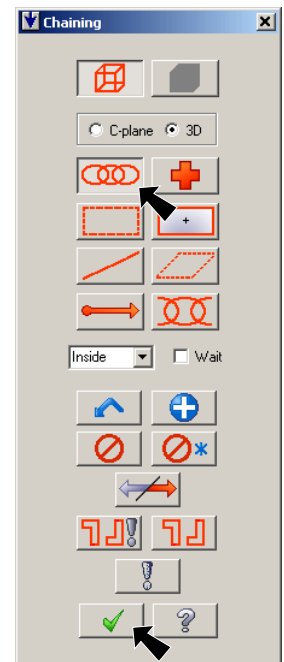

Fig. 22
Step 5. Click Chain in Chaining dialog box, **Fig. 22**.